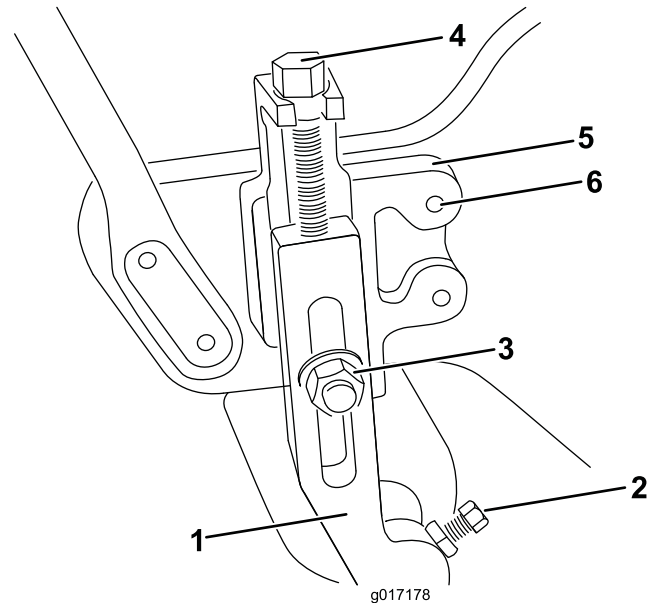

Figure 1
1. Loosen the jam nuts and set screws securing each end of the front roller to the height-of-cut arms (Figure 1).
2. Remove the carriage bolts and locknuts securing the height-of-cut arms to the adjusting brackets (Figure 1).
- Greensmaster 1600 mowers—remove the height-of-cut adjusting screws, jam nuts, and set screws from the height-of-cut arms (Figure 1).
- Greensmaster 800 and 1000 mowers—remove the 2 taper-face bolts securing the right and left height-of-cut brackets to the side plates (Figure 1). Install the height-of-cut brackets to the opposite sides of the machine with the 2 taper-face bolts, using the rear sets of mounting holes in the side plates.